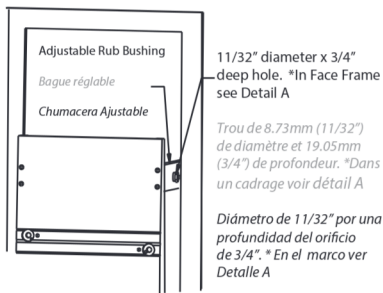

Fig 1 / l'illustration 1 / figura número 1
1) For installation in 1-1/2" Face Frame drill an 11/32" diameter x 3/4" deep hole in the center of the Face Frame at a height that will put the rub-bushing in the center of the rail. (See figure 1)